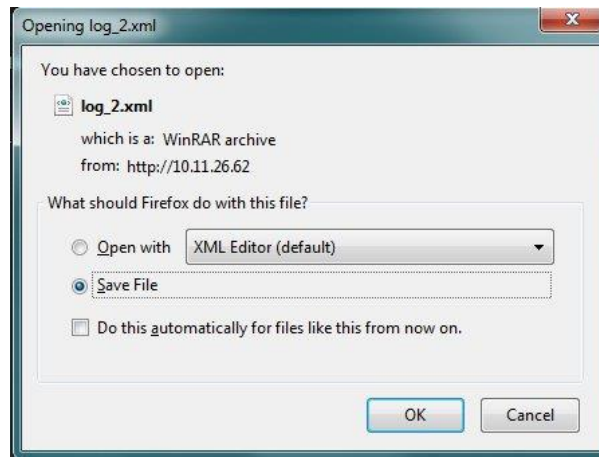

Figure 332: Opening a Log
- A window will appear asking if the user would like to save or open the log (Figure 332). Make your selection and click Ok to access your log.